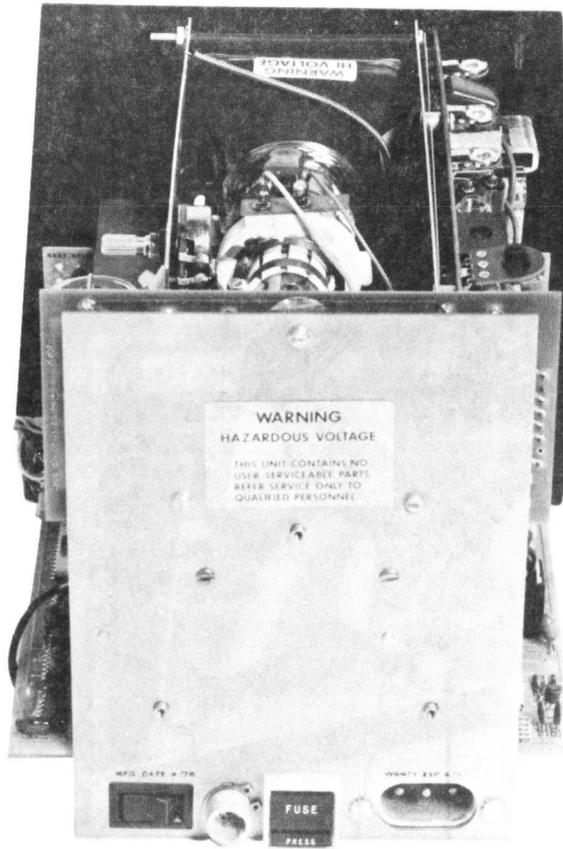

Figure 23, Rear View of Chassis
- e) Remove the three regulator support screws (#4-40) from the back chassis. (See Figure 23)
- b) Install the two bottom #4-40 screws into the back panel. Do not tighten. (See Figure 23)
- f) Remove the two display support screws (#4-40) from the back of the chassis. (See Figure 23)
- b) Install the two support screws (#4-40) in the back of the chassis. (See Figure 23)